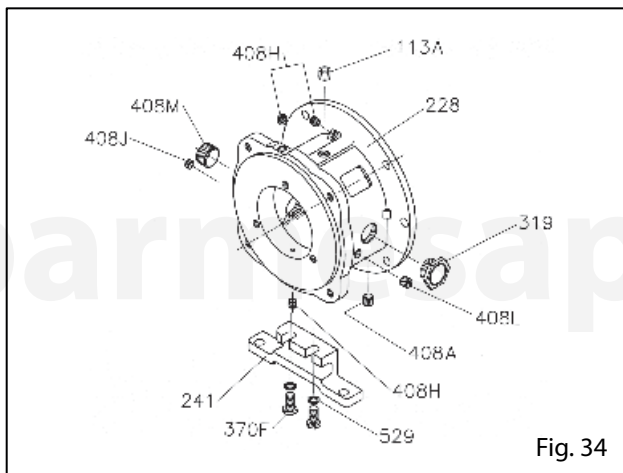

Fig. 34
- 1.- Install in the bearing box all screw plugs (the oil drain plug, the four connection plugs oil mist, the two inlet plugs, cooling system outlet plug), in addition to the oil inspection glass and the two guide pins. (See Figure 34)